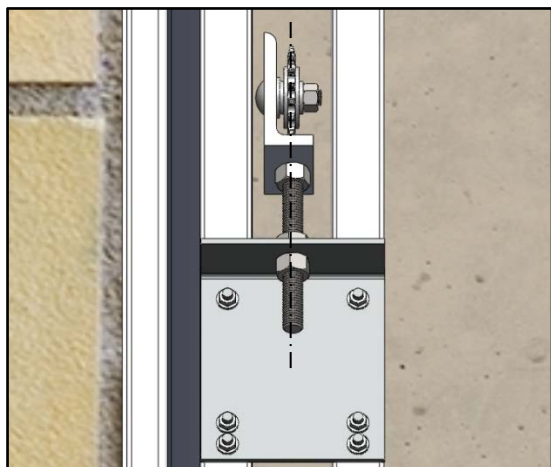

Figure 33
**IMPORTANT:** When adjusting the return idler-tensioner assembly, confirm that the idler gear is centered between the roller tracks. (See Figure 33)